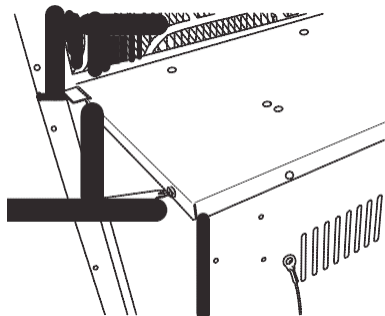

Figure 1 - Remove Fireplace Top Cover
1. Unscrew and remove top cover of the fireplace (see Figure 1).
21. Replace top cover (see Figure 1, page 5).